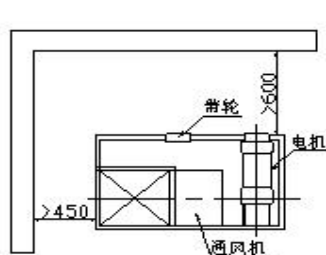

图1
- (1)若风机处于露天场合，应具备防护设施加以保护； If the fan in the open air, should have safeguard
- (2)风机应置于方便管理及监护的地方（图1）； The fan should be placed to facilitate the management and monitoring of the place (Figure 1);
- (3)安装的场所应具有固定的基础。 The installation site should have a fixed base
- (4)特别是安装于高架结构上的风机，安装场所应是不诱发振动的结构。 Especially the fan installed on the overhead structure, the installation site should be structure induced vibration.